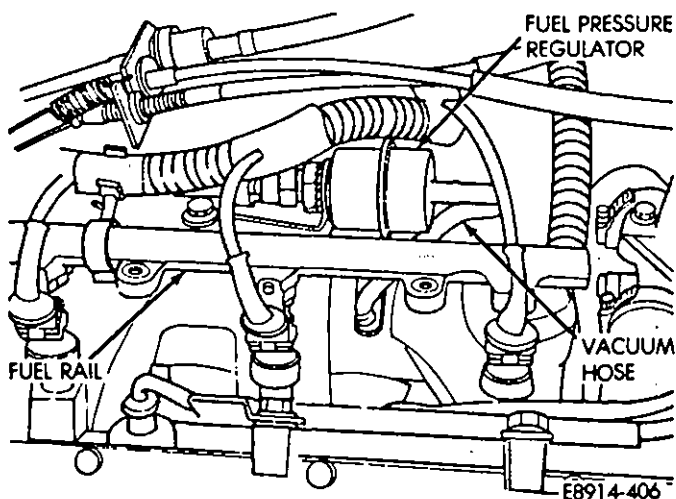

Fig. 33—Fuel Pressure Regulator Vacuum Hose
(24) Inspect the fuel pressure regulator vacuum hose for fatigue or damage (Fig. 33). Replace the hose if necessary.